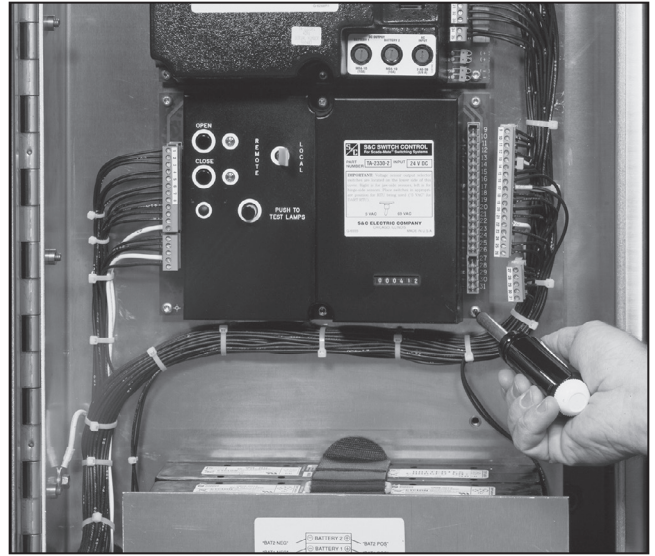

Figure 16. Remove the Torx screws.
- STEP 15.** Remove the six T-20 self-tapping stainless steel Torx screws that attach the switch control to the nylon standoffs. Retain the hardware. See Figure 16.